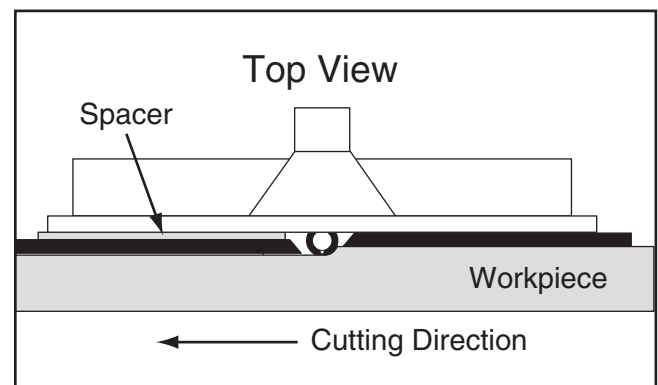

Figure 33. Edge jointing (guard removed for clarity).
8. Connect router to power, then perform cut (see **Figure 33**).